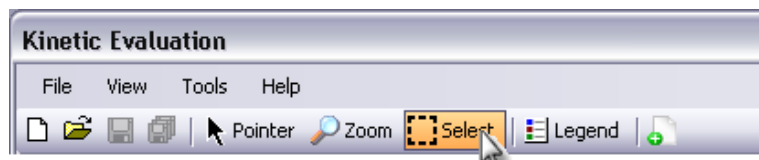

Figure 4.15 - Changing the Graph Mode to Select
- b) Change the graph mode *Selection*, as shown in Figure 4.15.